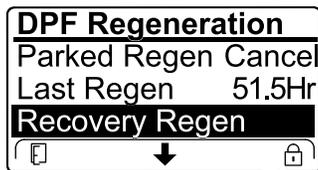

Figure 54
- If the engine computer has not requested a recovery regeneration and you scroll down to the RECOVERY REGEN option, the recovery regeneration locks and the lock icon (Figure 54) appears in the lower right corner of the InfoCenter.